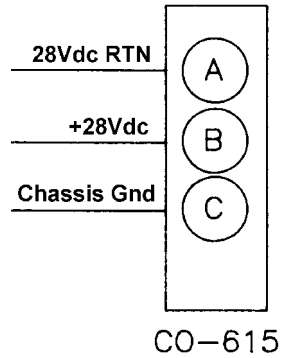

Figure 6 - DSA 3007/3207/3307 Power wiring
- 2) Connect +28Vdc to the unit. Wiring information may be found in Figure 6.
The DSA 3007/3207/3307 modules require $28\pm 8\text{Vdc}$ at approximately 8 W. This will remain constant while the module is operating normally. Power connections are made through a three pin connector located on the side of the module. The pinouts of the connector may be found in Figure 6.